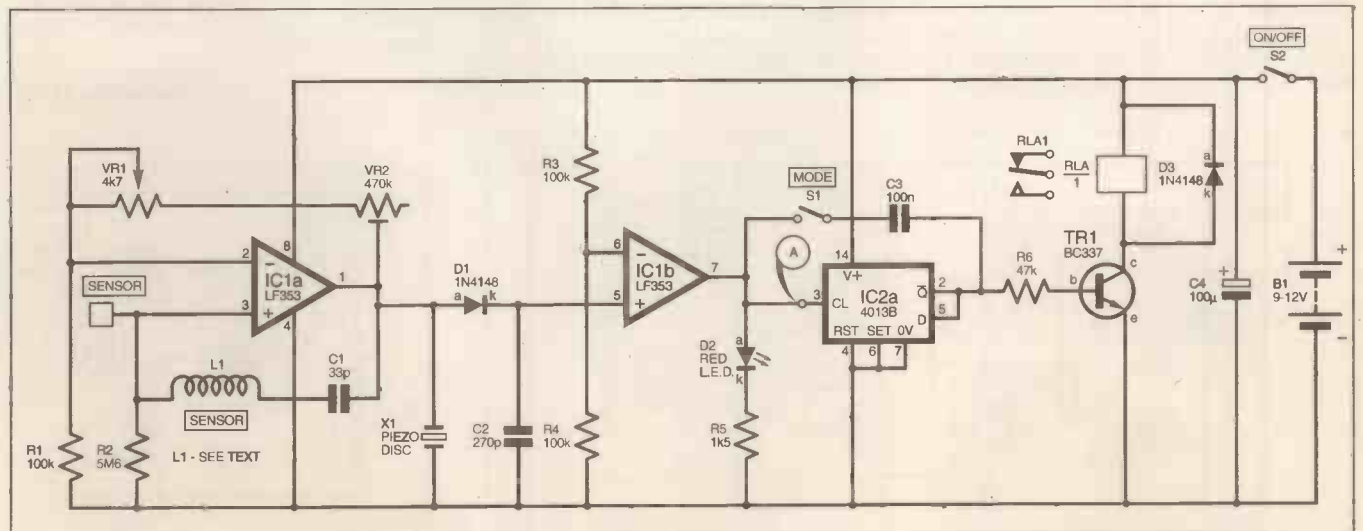

Fig.1. Circuit diagram for the Multi-Purpose A.C. Detector/Touch Switch.
**T**HE circuit diagram shown in Fig. 1 has potential uses as an A.C. Field Detector, a touch alarm trigger, or as a touch-on touch-off switch. The first stage of the circuit, based upon op.amp IC1a, serves as a sensitive a.c. field detector with a range of a few metres.